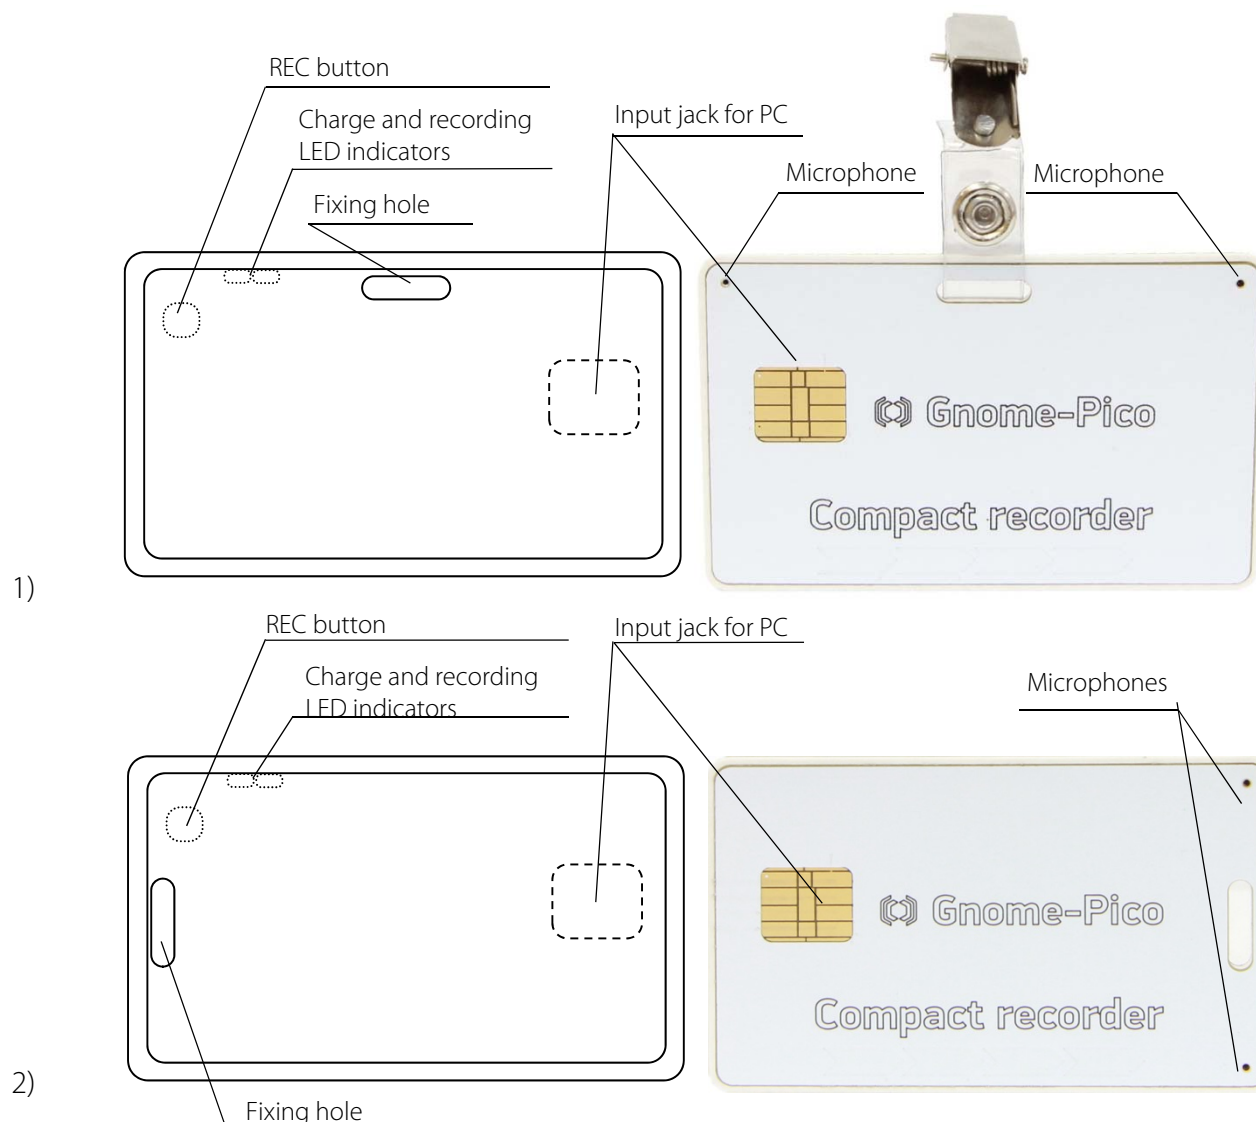

Figure 1: Product exterior.
The recorder comes in a white plastic case and is designed as a badge, access card and credit card. Device exterior with indication of parts is shown on Figure 1. Unlike badge case design, device designed as a credit card does not have a fixing hole.
To manage recording manually, you can use the button located on the device case (Figure 1). This mode is enabled by default.
- Push the REC button located on a device case (see Figure 1).
Recording session will begin after the input signal level exceeds the specified start/stop threshold, and stop after a defined period after the signal level falls below the threshold. Every time the recording starts or finishes in the volume-triggered mode, the LED indicator blinks once (see Figure 1).